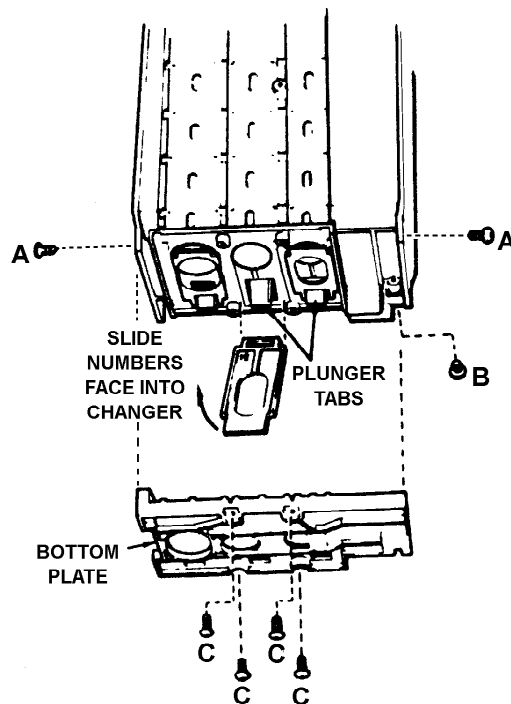

Figure 7
To clean the Dispenser Slides, detach the Bottom Plate by removing the 7 Phillips head screws: 4 screws (C) on the bottom of the changer, 1 screw (A) on each side, and a recessed screw (B) on the back. (See Figure 7)